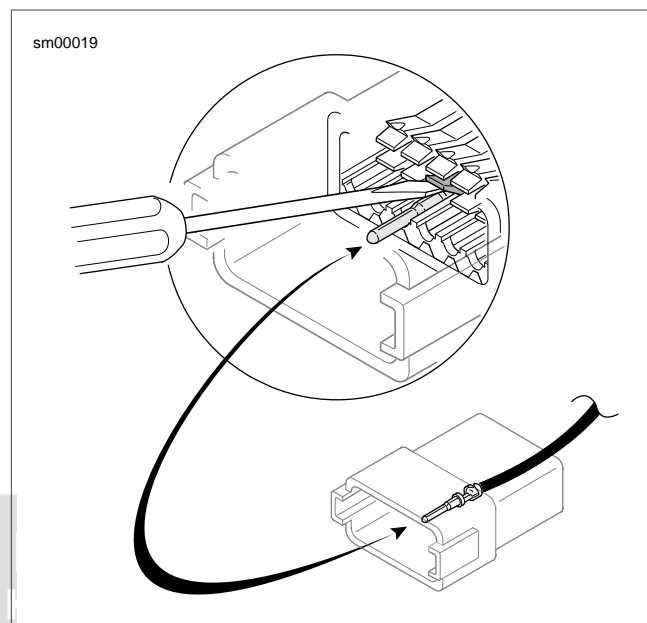

Figure A-33. Deutsch DT Sealed Connector: Press Terminal Latch and Back Out Pin
2. See Figure A-33. Use a pick or small screwdriver to press terminal latches inside socket housing and back out sockets through holes in rear wire seal.